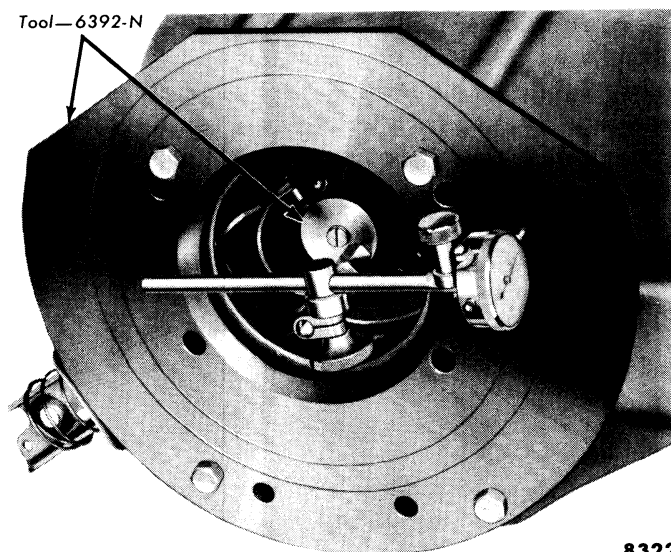

Fig. 9—Face Alignment Check
With the transmission and clutch release bearing removed, install the pilot tool shown in fig. 9. Clean the face of the flywheel housing bolt bosses (4) and install the adapter plate on the housing (fig. 9). Install the dial indicator on the pilot and adjust the holder to locate the indicator button between the scribed lines. Remove the flywheel housing cover and pull the engine flywheel outward or push it inward to remove normal
Remove the flywheel housing from the engine and remove the dowel pins between the engine and flywheel housing. Install the flywheel housing and tighten the attaching bolts to normal torque. Install the adapter plate and dial indicator (fig. 9). Check the face alignment and shim as required to bring face alignment within limits (0.007 total indicator reading).